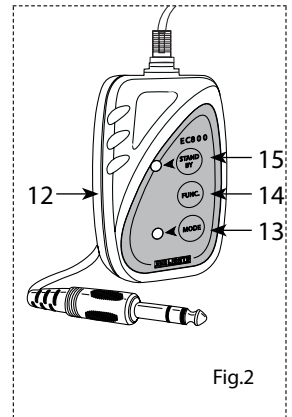

Fig.2
5. CONNECTION JACK for the remote control EC800 (fig.2).
12. REMOTE CONTROL EC800 (optional) (fig.2).